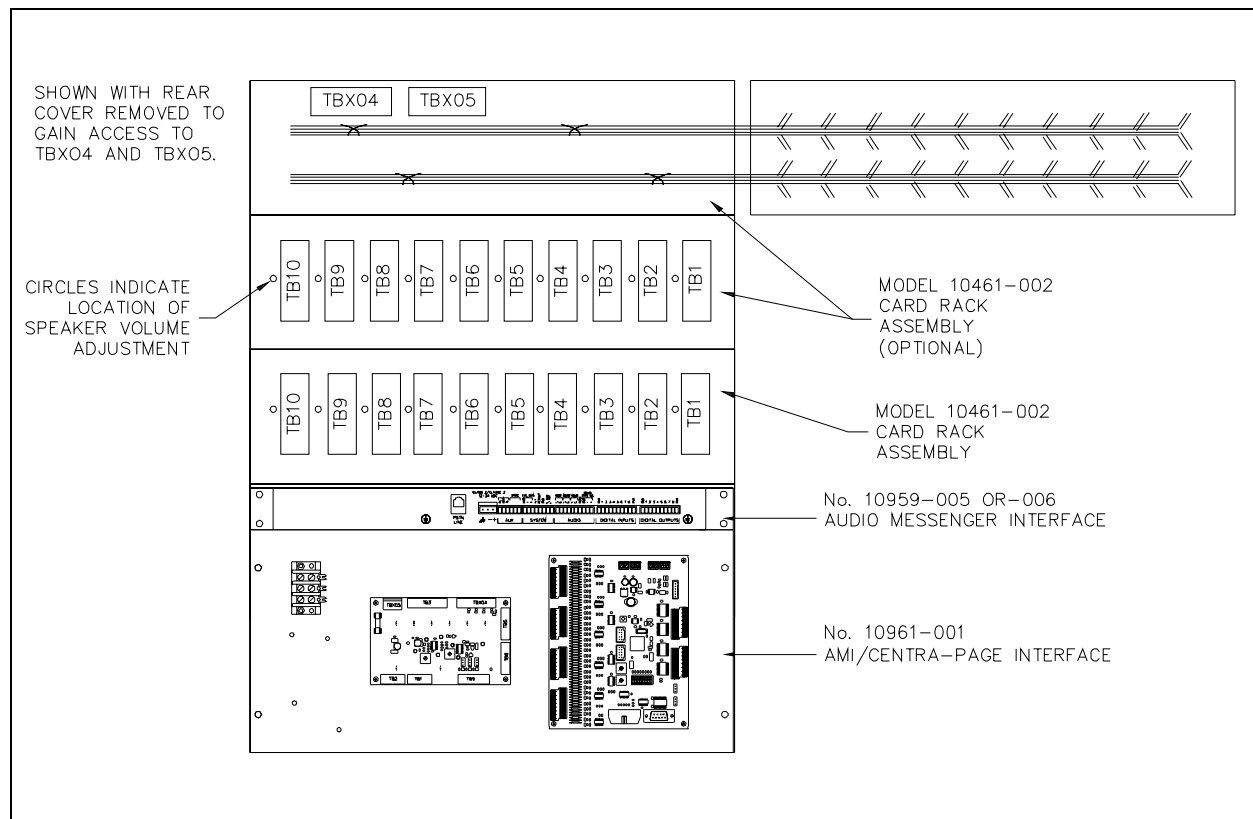

Figure 2. General Outline Details
2. Refer to Figure 2. The Model 10461-002 Card Rack(s) is mounted in a Model 10468-002 Centra-Page Central Cabinet, or similar 19-inch cabinet. If mounting more than one card rack or a Model 10961-001 AMI Centra-Page Interface, all components should be kept together. There should be no blank panel space between these pieces of equipment or the interconnecting jumpers will not be long enough.
3. For easy access to TBX04 and TBX05, remove the four screws that hold the back panel on the card rack. This is the panel with TB1 through TB10 mounted on it. Refer to Figure 2 for details.